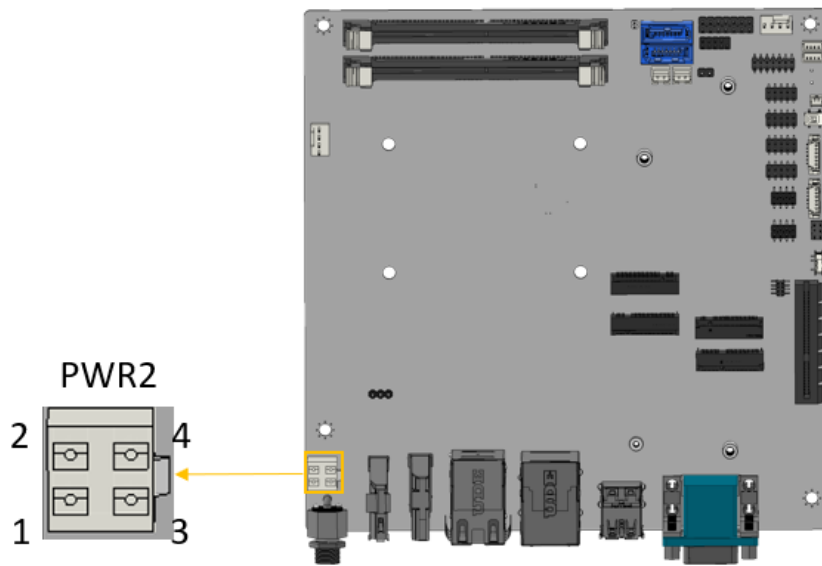

Figure 3-7: 12V Power Input Connector
- CN Location:** See **Figure 3-7**